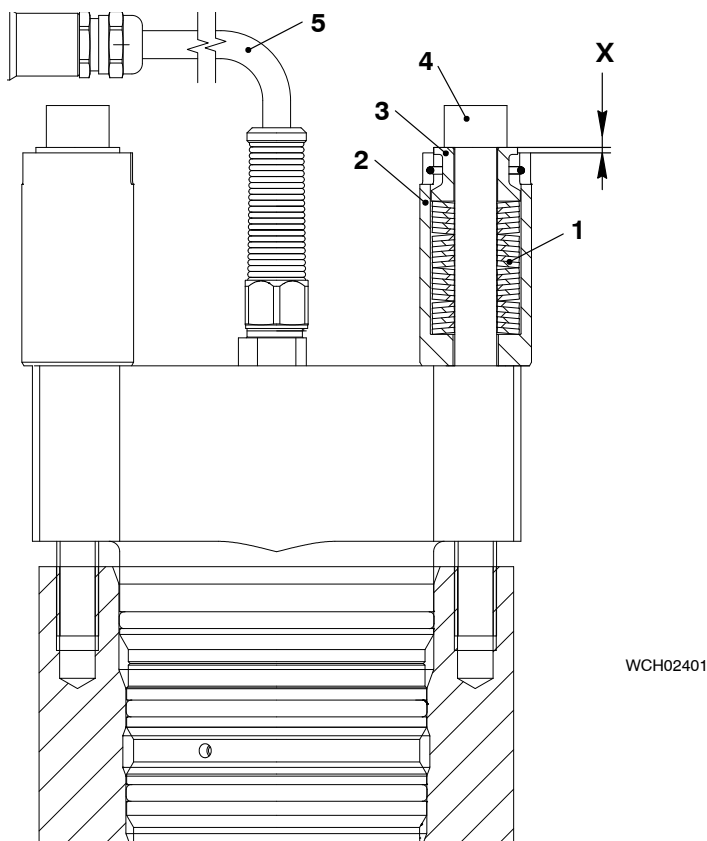

Fig. 4
- 8) If the spring cage (2) was disassembled, make sure that the cup springs (1) are installed as shown in Fig 4.
- 9) Apply Never-Seez NSBT to the threads and the seating surface of the screws (4).
- 10) Tighten the screws (4) equally until the spring guide (3) is flush with the spring cage, $X = 0$.
- 11) Connect the cable (5) to the flow limiting valve.